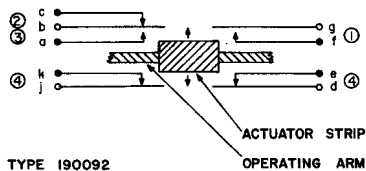

FIGURE 1 CONTACT ARRANGEMENTS
- c. The contacts in each assembly must operate in the sequence shown by the circled numbers in Figure 1 when the operating arm is moved from the normal position. Contacts marked with the same number should function at approximately the same time. The two contacts of each mating pair of springs must make and break simultaneously. The bar contacts must mate approximately on centers.